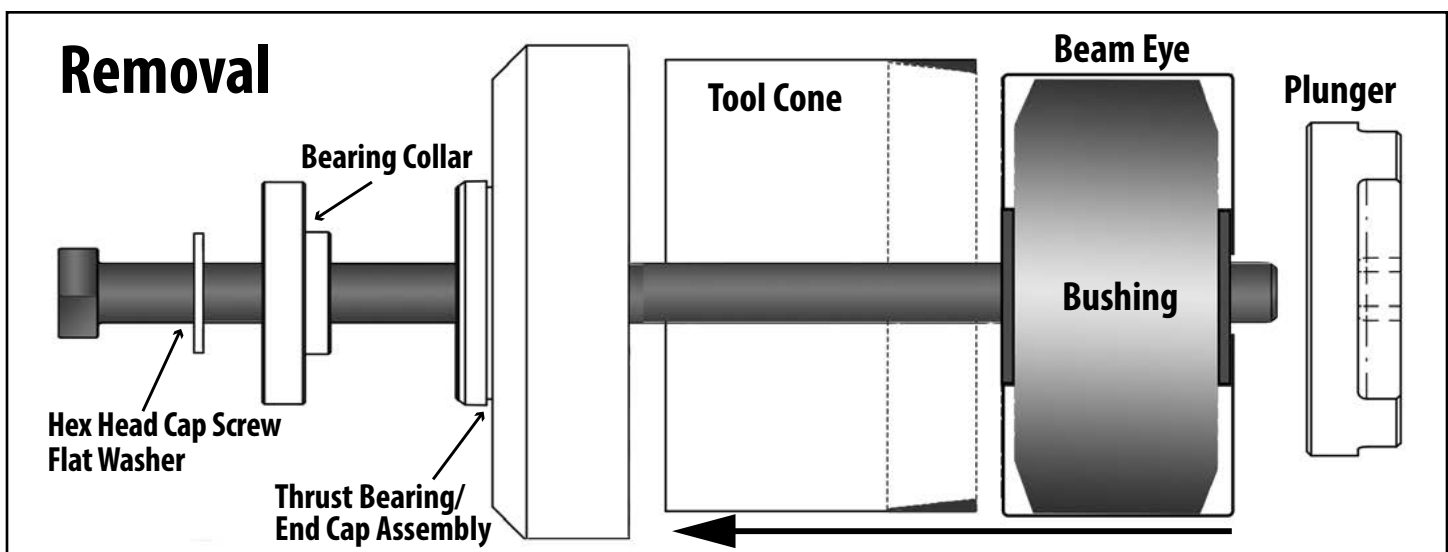

Figure 6.
Thread the flat washer, the bearing collar and the endcap onto the HHCS until the bearing collar and endcap rest against the head of the HHCS. Place tool cone onto endcap (Figure 6).
1. Push the hex-head cap screw through the bushing inner sleeve until the tool cone is against the beam eye. Thread the plunger onto the HHCS until the tool cone is held firmly against the beam (Figure 6).